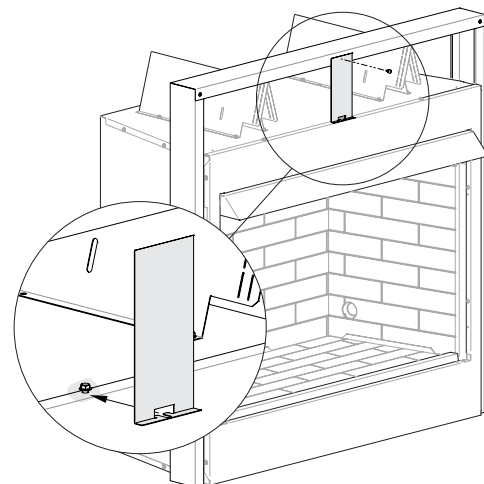

Figure 11
3. Locate the middle bracket. Loosen the screw in the middle top of the fireplace. Slide the bracket under the screw as shown in Figure 11. Tighten the hex-head screws on the fireplace secure a pan-head screw through the middle bracket and into the top stud.
4. Locate the middle bracket. Loosen the screw in the middle top of the fireplace. Slide the bracket under the screw as shown in Figure 11. Tighten the hex-head screws on the fireplace secure a pan-head screw through the middle bracket and into the top stud.